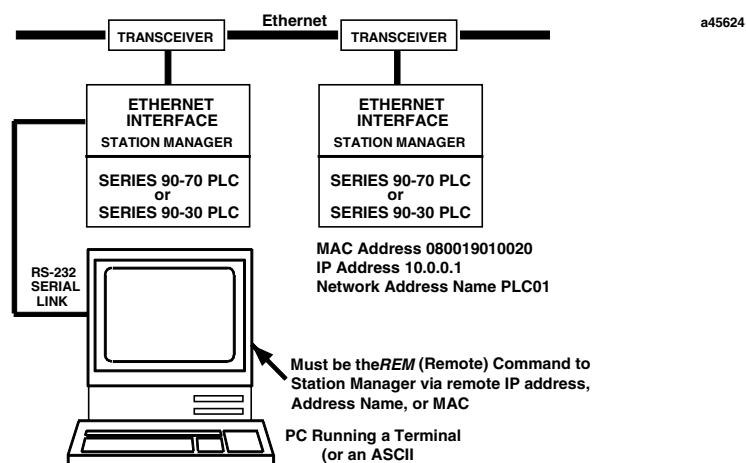

Figure 2-2. Station Manager Accessed Remotely over the Network Using the *REM* (Remote) Command
2. **Remotely over the Ethernet network via another Ethernet Interface** by a PC running a terminal emulator or by an ASCII terminal. This method requires the use of the *REM* (Remote) command to access the remote station. See Figure 2-2.